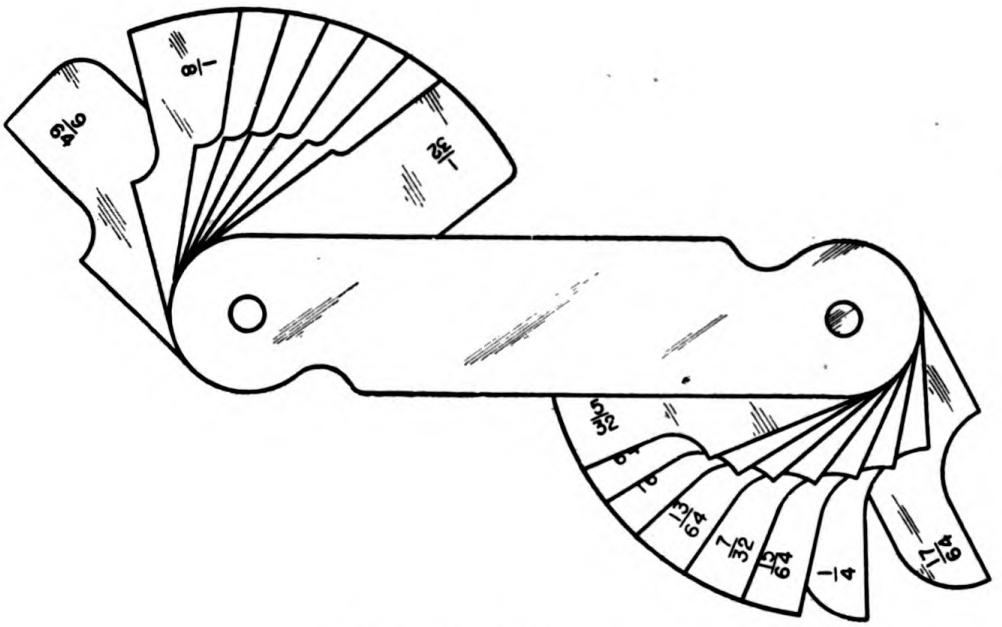

Figure 62. Radius gauge.
g. **RADIUS GAUGE.** This gauge is also similar to a thickness gauge. (See fig. 62.) All leaves are of the same thickness, and each is curved on a definite radius at the outer end. The length of the radius is marked on the leaf. By trying leaves on a curved surface of unknown radius until one fits, the radius of the curve may be found.